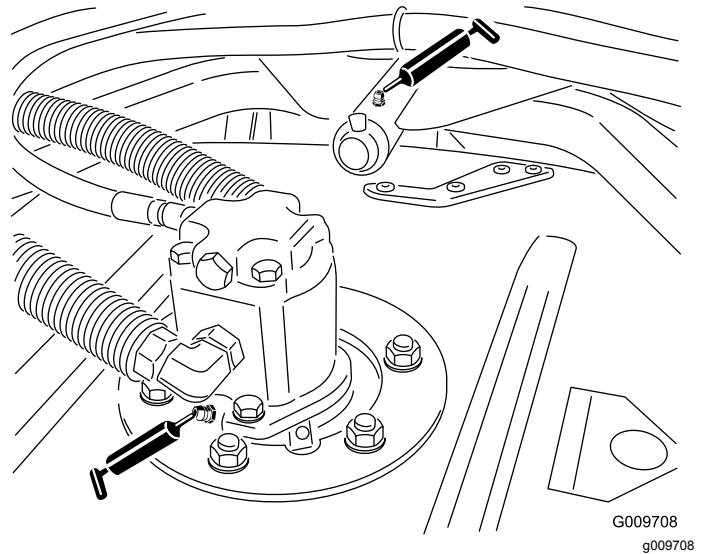

Figure 26
- Cutting unit spindle shaft bearings (1 per cutting unit) (Figure 26)
- Cutting unit carrier arm bushings (1 per cutting unit) (Figure 26)